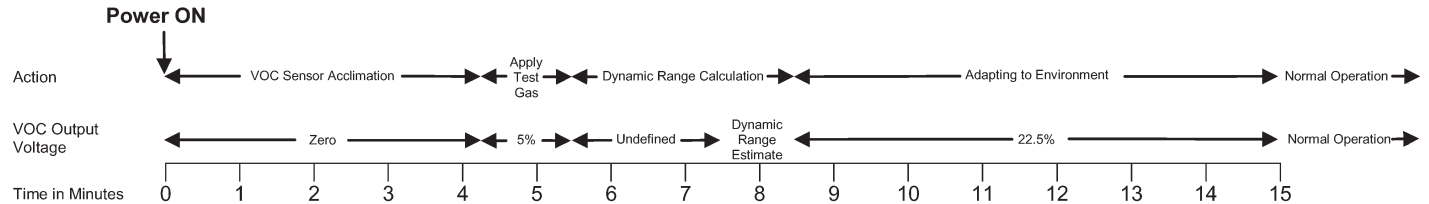

Fig. 6: Sensor Start-up Timeline
At each power up, the sensor enters the start-up period for 15 minutes. The VOC output will follow the timing shown in Figure 6. During the start-up period, an optional verification/commissioning test, described below, may be performed. This test is not mandatory. It is necessary only if building commissioning requires sensor verification or if verification of VOC output is required for later troubleshooting.
- Remove sensor power for at least one minute and reapply. The VOC sensor will set the VOC output to zero volts. (Power ON in Fig. 6)
- The 5% output voltage confirms that the VOC sensor is in its verification/commissioning test. (Apply Test Gas in Fig. 6)
- Read and record the VOC output voltage approximately 2 to 4 minutes following the stimulus gas application to determine the dynamic range measurement. (Dynamic Range Estimate period in Fig. 6)